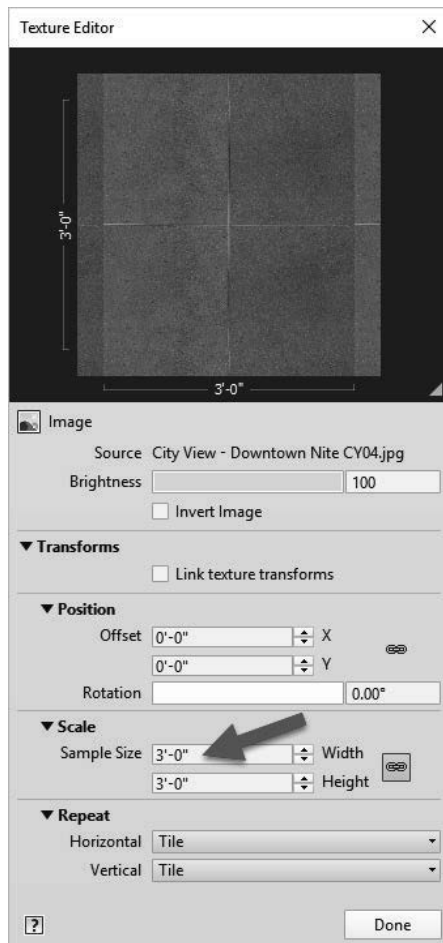

FIGURE 4-4.18 Adjusting texture size
71. In the *Texture Editor*, change the *Sample Size* to **3'-0"x3'-0"**; this is for two 18" tiles in each direction (Figure 4-4.18).